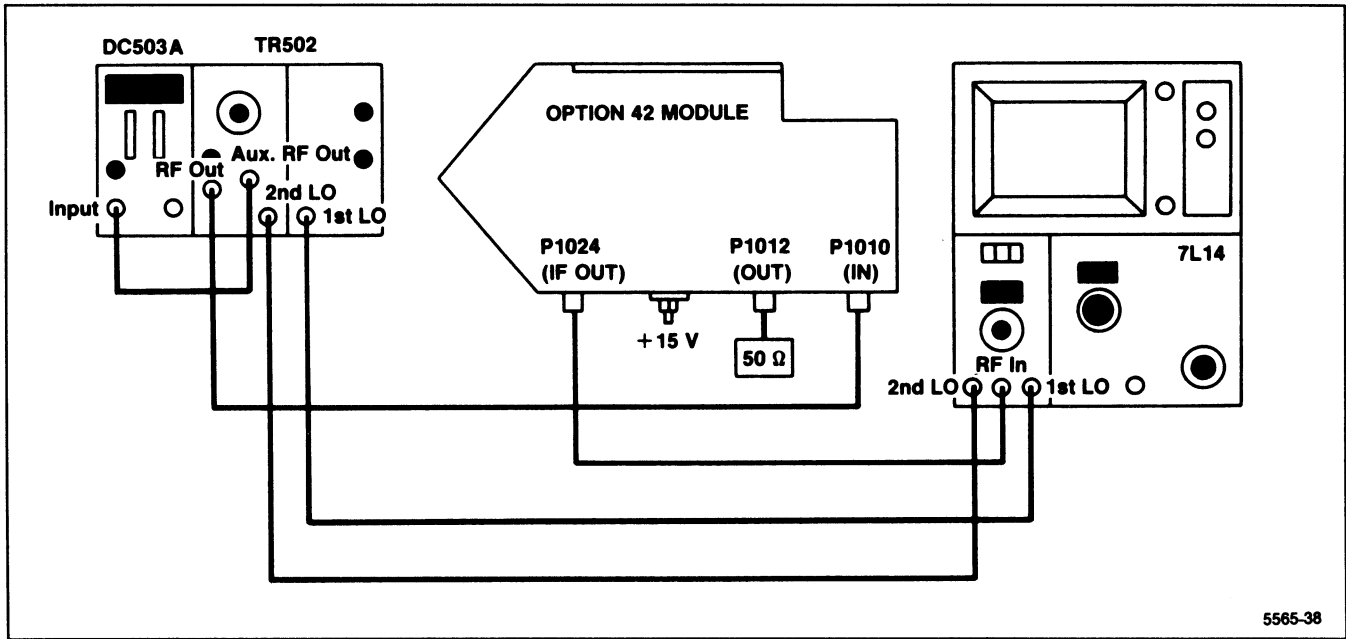

Figure 5-28. Option 42 adjustment test equipment setup.
- a. Connect the test equipment as shown in Figure 5-28.